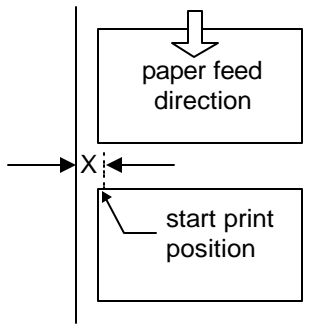

Fig. 3.2.1
1. Choose the expected distance "x" (from the left edge to the start print position). In this case, we suppose the distance is 4 mm (see figure 3.2.1).